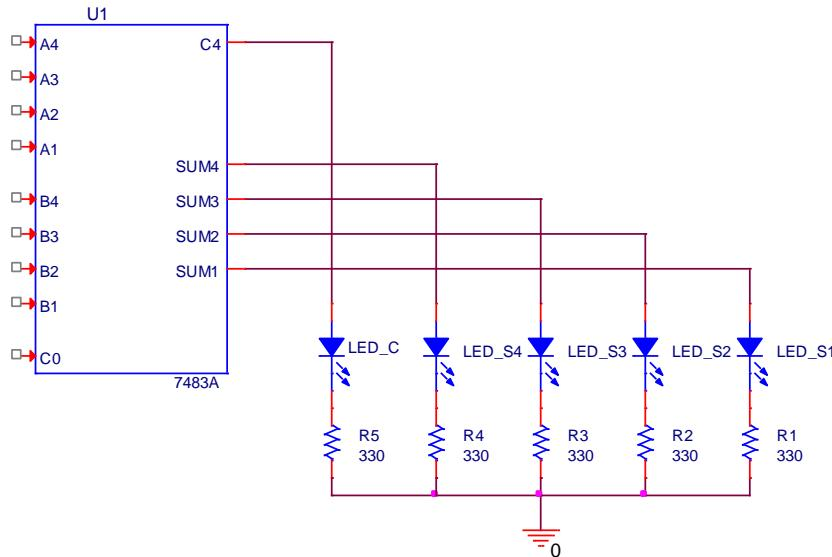

Figure 7.2
2. Design the 2s complement adder/subtractor system shown in Figure 7.2. Use a 7486 IC for the four XOR gates. Use a single 7483 adder IC for the four full adders (FAs).